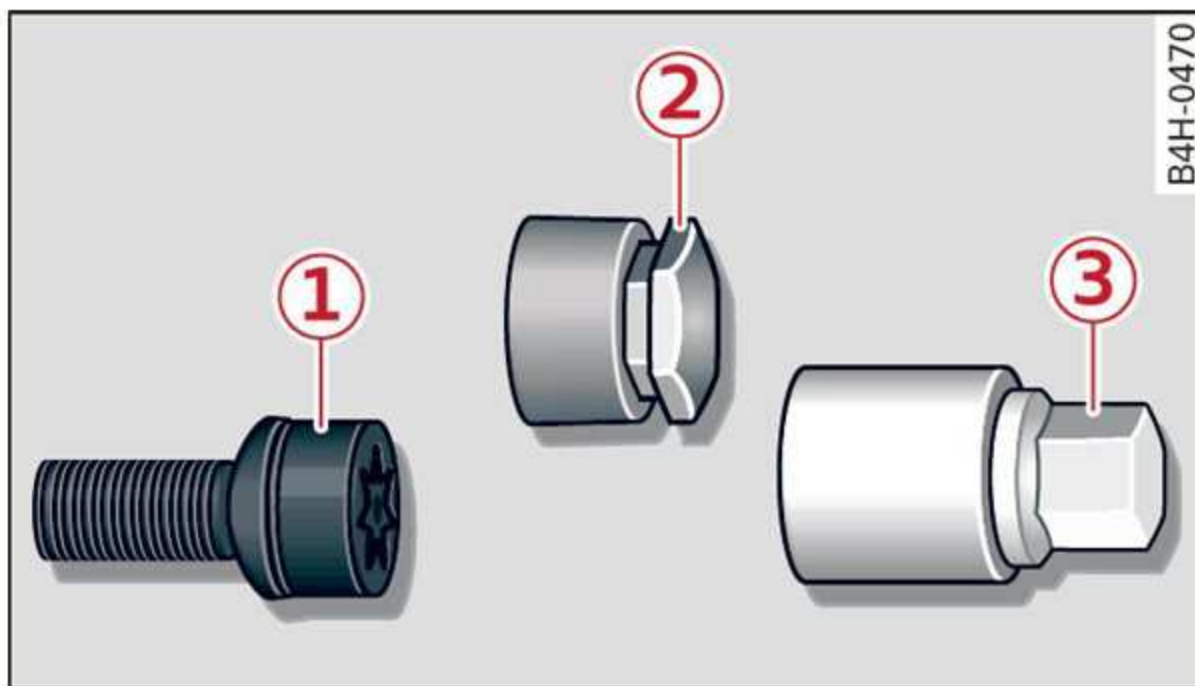

Fig. 191 Anti-theft wheel bolt with cap and adapter
- ▶ Remove the wheel hub cover* or cap* ② ⇒ *fig. 191*.
- ▶ Slide the adapter ③ all the way onto the anti-theft wheel bolt ①.
- ▶ Slide the wheel wrench from the vehicle tool kit all the way onto the adapter ③.